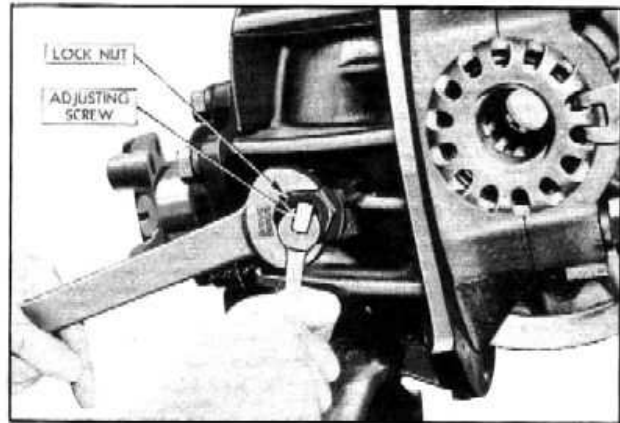

Fig. 30—Ring Gear Thrust Pad Adjustment
7. Install the thrust pad and tighten the screw until the bronze tip lightly engages the back of the ring gear while rotating gear. Back off the screw one-twelfth (1/12) of a turn and then tighten the lock nut, making sure the screw does not turn during the locking process. This will provide .005" to .007" clearance, Fig. 30.